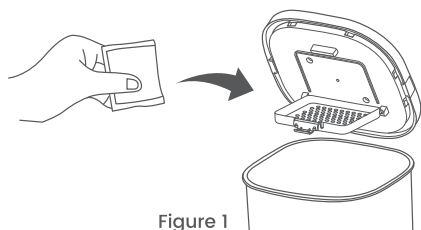

Figure 1
• **Assembly and replacement of a desiccant packet.** Tear off a transparent bag packaging the desiccant packet, and put the desiccant packet in a clamping groove in the top of the food barrel lid. (Figure 1)